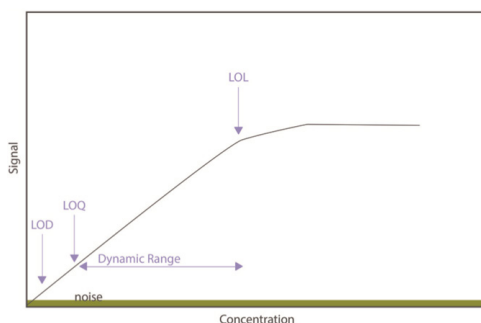

Figure 2. Calibration Curve Limits and Range
- **Limits of linearity (LOL):** upper limits of a system or calibration curve where the linearity of the calibration curve starts to be skewed creating a loss of linearity (Figure 2). This loss of linearity can be a sign that the instrumental detection source is approaching saturation.